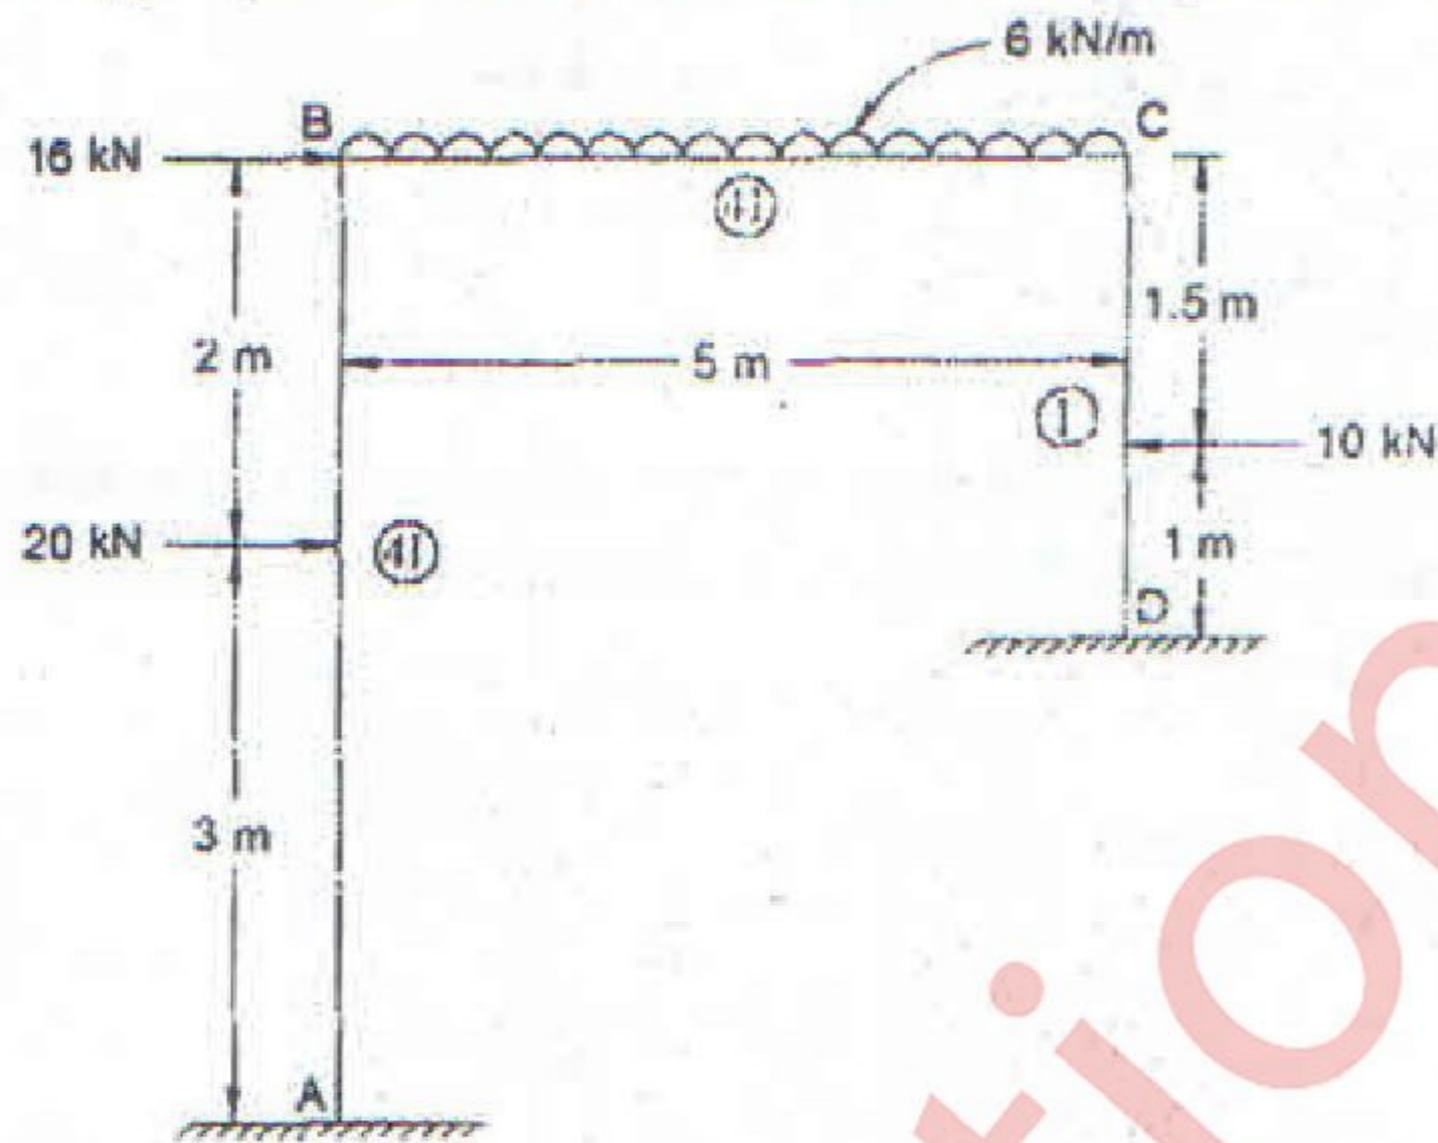

Figure 4
3. A portal frame ABCD is loaded and supported as shown in figure 4. Use **Flexibility method** for analysis, draw BMD and deflected shape of the frame. [20]
4. A portal frame ABCD is loaded and supported as shown in figure 4. Use **Stiffness method** for analysis, draw BMD and deflected shape of the frame. [20]